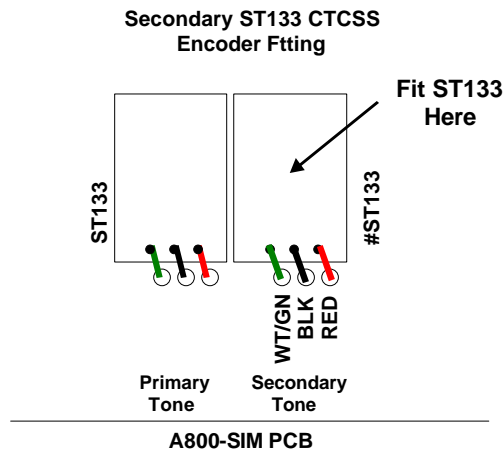

Figure 4.
3. Wire the ST133 to the A800-SIM PCB as per Figure 4: